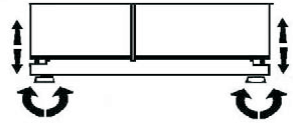

Fig.3
- Try some operations, i.e. Open/close door to confirm the appliance will not move under normal usage/operation. If the appliance moves, adjust the leveling feet again until it is fixed and do not move (See fig.3).